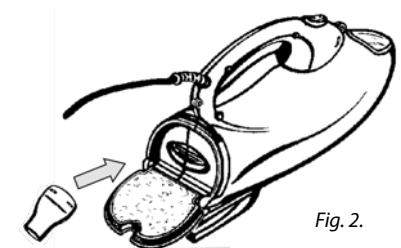

Fig. 2.
2. Insert the multi-purpose adapter into the opening, see Fig. 2.